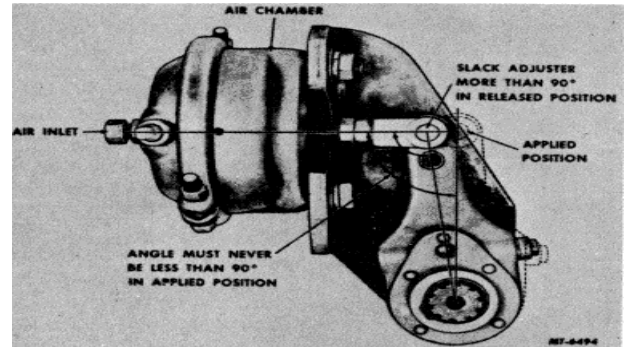

Fig. 7 Brake Chamber and Slack Adjuster
4. Make a full brake application and check the angle between the slack adjuster and push rod. If it is not greater than 90° with the brakes applied, repeat the adjustment until the angle is satisfactory. The desirable situation is to bring the brake shoes against the drum as the slack adjuster attains the 90° position, Fig. 7.